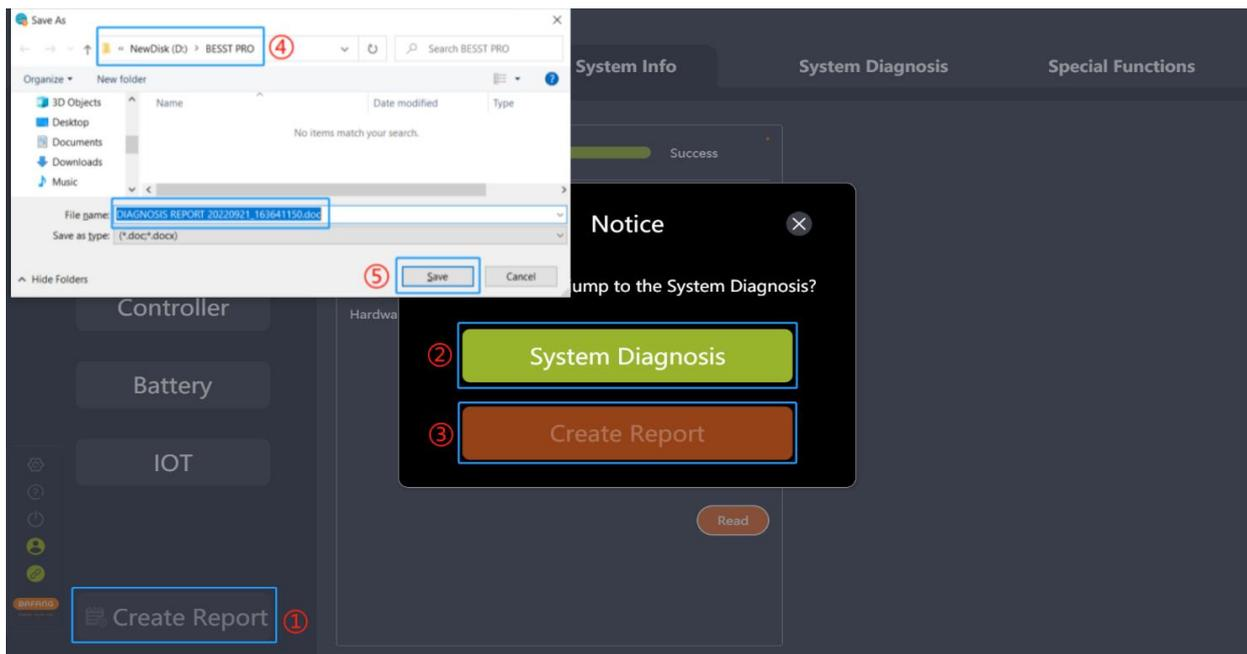

Fig. 6-6 System Diagnosis interface reports creation
- (1) Click "Create Report", and a pop-up window will prompt "Do you want to jump to System Info?" (Fig.6-6).
- (2) To read system information, click "System Info" to jump to it.
- (3) Click "Create Report".
- (4) Select the local save path.
- (5) Click "Save" to generate a PDF report.